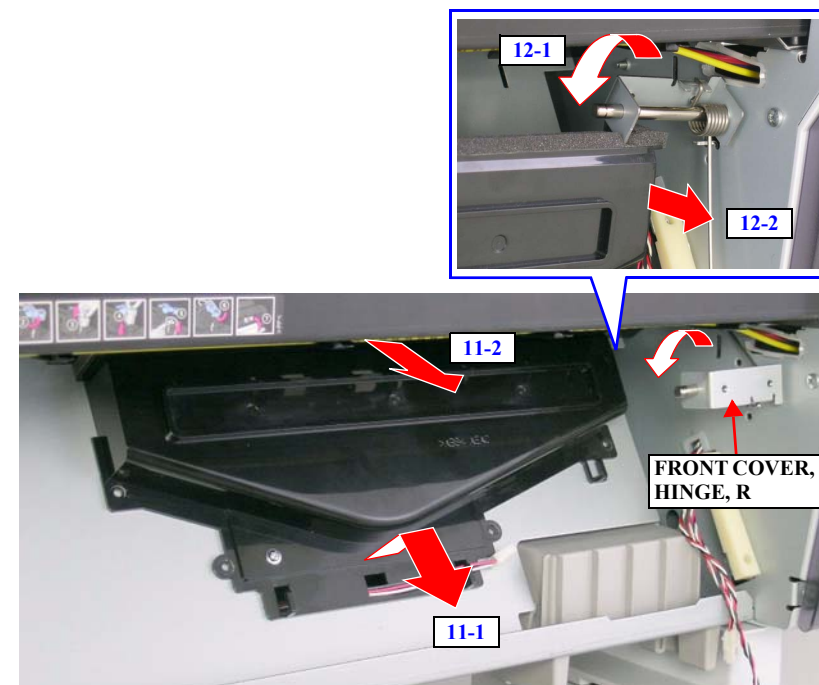

Figure 4-81. Removing the Right VACUUM FAN ASSY.
11. Pull the right VACUUM FAN ASSY. downward and pull out its rear toward you. *See Figure 4-81.*
12. Turn the FRONT COVER, HINGE, R toward the inner side to release the right side of the right VACUUM FAN ASSY., and then raise the rear of the assy. toward you to remove it from the rear. *See Figure 4-81.*